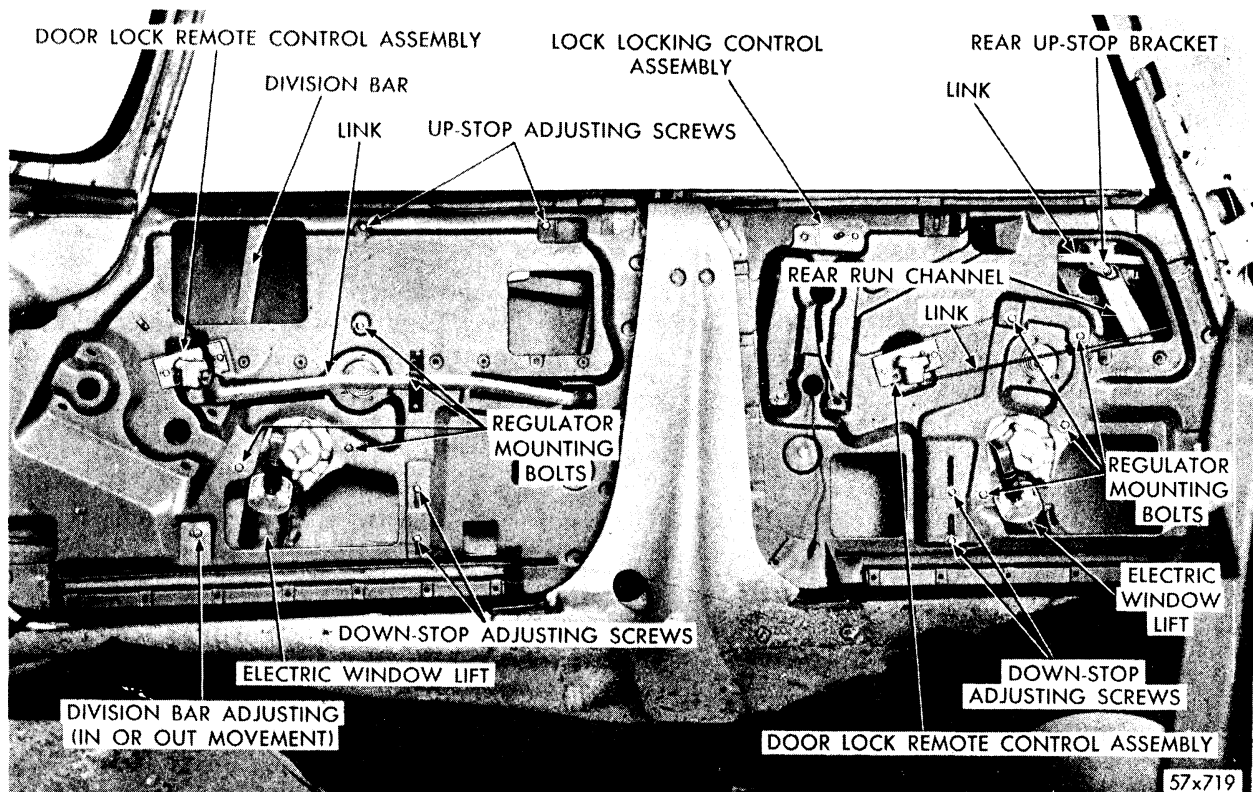

Fig. 58—Front and Rear Door Control Assembly
22. REMOVAL AND INSTALLATION OF DOOR LATCH AND REMOTE CONTROL (Fig. 58)
Refer to Figure 58 and proceed as follows: Remove rear seat cushion, regulator handle, and trim panels. Lower glass and remove Allen screw locking pivot arm pin. Pull forward vertical section of felt run channel up and out of body opening. Carefully raise glass and disconnect regulator arm from quarter glass lower channel. Remove glass from opening. If glass is to be replaced, drive the seal and channel off glass with hardwood block and mallet.